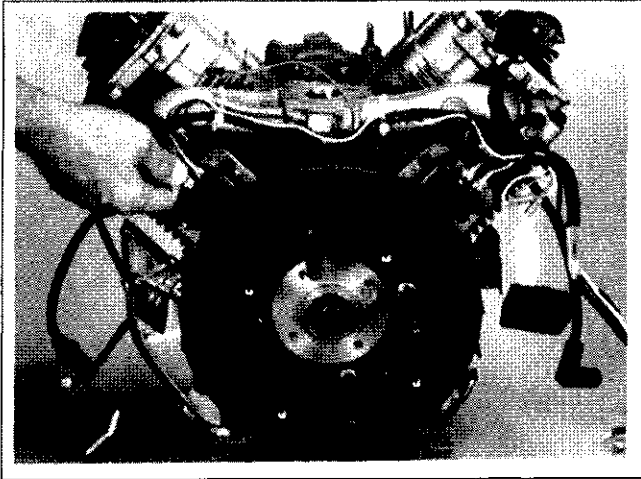

Figure 9-38. Disconnecting Leads from Ignition Modules.
1. Disconnect the leads from each ignition module. See Figure 9-38.